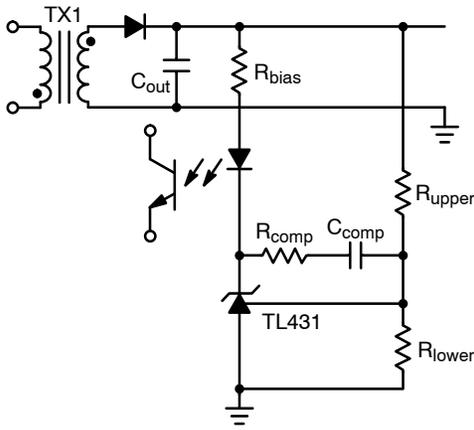
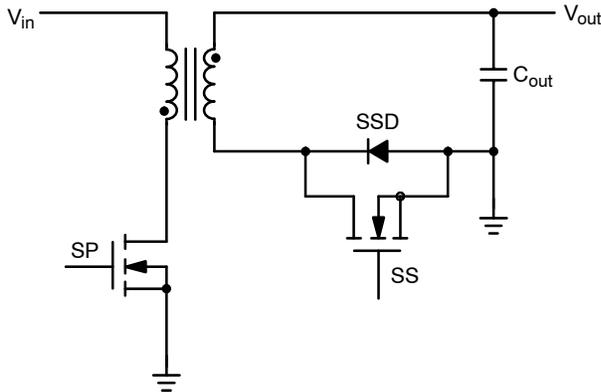

Figure 29. Typical Secondary Side Regulator
Figure 30. Synchronous Rectifier
When the TL431 is being used to regulate the output of a power supply it is typically configured as shown in Figure 29. Where the output from the power supply is sensed and divided down with a resistive divider made up of  $R_{upper}$  and  $R_{lower}$ . The center point of the divider is connected to the reference pin of the NCP4302. The divider ratio scales down the output voltage to match the reference voltage, 2.5 V or 1.25 V.
The  $R_{bias}$  resistor in Figure 29 sets the current through the TL431, which must be greater than 0.5 mA to guarantee its performance under all operating conditions.
For a flyback converter to operate correctly with synchronous rectification there must be a delay between the time when the primary side MOSFET (SP Figure 30) and the secondary side Synchronous rectification MOSFETs (SS Figure 29) are conducting current. The NCP4302 can
The basic switching waveforms for the Flyback converter operating in DCM are shown in Figure 31. When the primary side MOSFET (SP in Figure 30) is turned-on current flows in the transformer primary and ramps up from zero to  $I_{peak}$ . When the primary side MOSFET (SP) turns-off, the polarity of the transformer reverses and the energy stored in the transformer is transferred to the secondary. When the energy transfer from the transformer primary to the transformer secondary begins, (prior to the secondary side synchronous MOSFET turning-on) the secondary current flows through the internal body diode synchronous rectifiers MOSFETs (SS) and (SSD). To minimize the losses in the SSD, the propagation delay ( $t_{p1}$ ) must be low. Otherwise, there will be high losses associated with the secondary peak current and the SSD forward voltage drop (NCP4302 has a typical propagation delay of 50 ns).